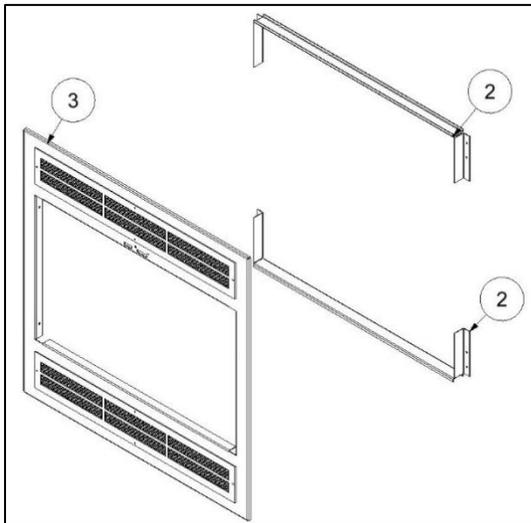
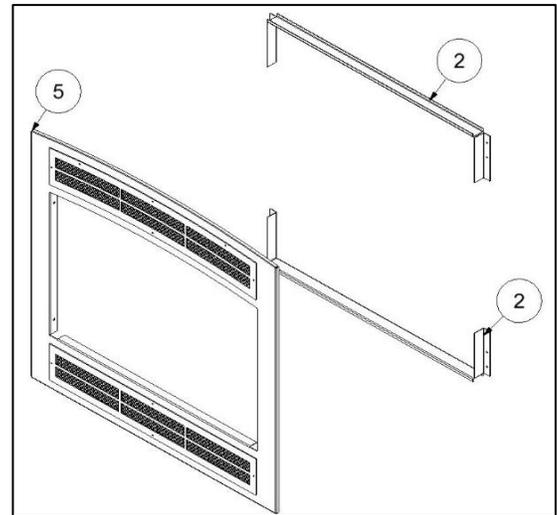

Figure 3-12: Traditional Rectangular Surround Components
Figure 3-13: Traditional Arched Surround Components
The traditional surround comprises louvers below (intake) and above (outtake) the door. All components and fasteners are included in the surround kit. Refer to Figures 3-12 and 3-13 and Tables 3-2 and 3-3 for the instructions below.
4. Place the surround (Item 3 in Figure 3-12 or Item 5 in Figure 3-13) within the door holder and secure it in place with four black screws (one on each corner). Make sure that the handles of the Combustion Air Control pass through the slots of the surround.